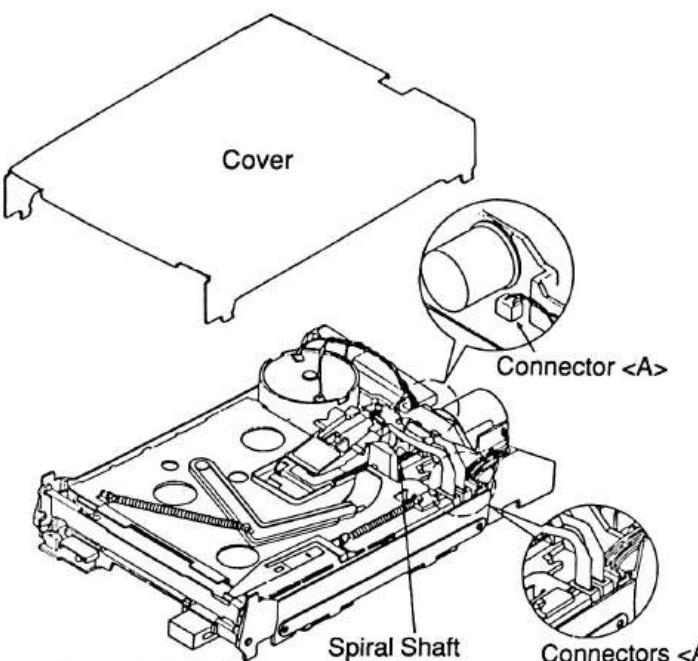

Figure 1
1) Remove the cover as shown in Figure 1.
2) Disconnect four connectors <A> from the main board as shown in Figure 1.